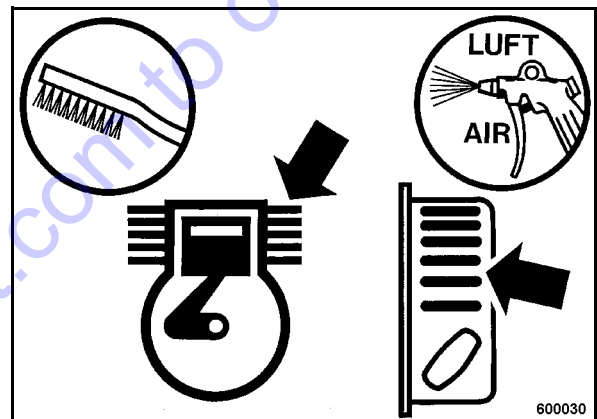

Fig. 54
- Dry clean the entire cooling air area like cylinder head, cylinder flywheel blower and blow it out with compressed air (Fig. 54).